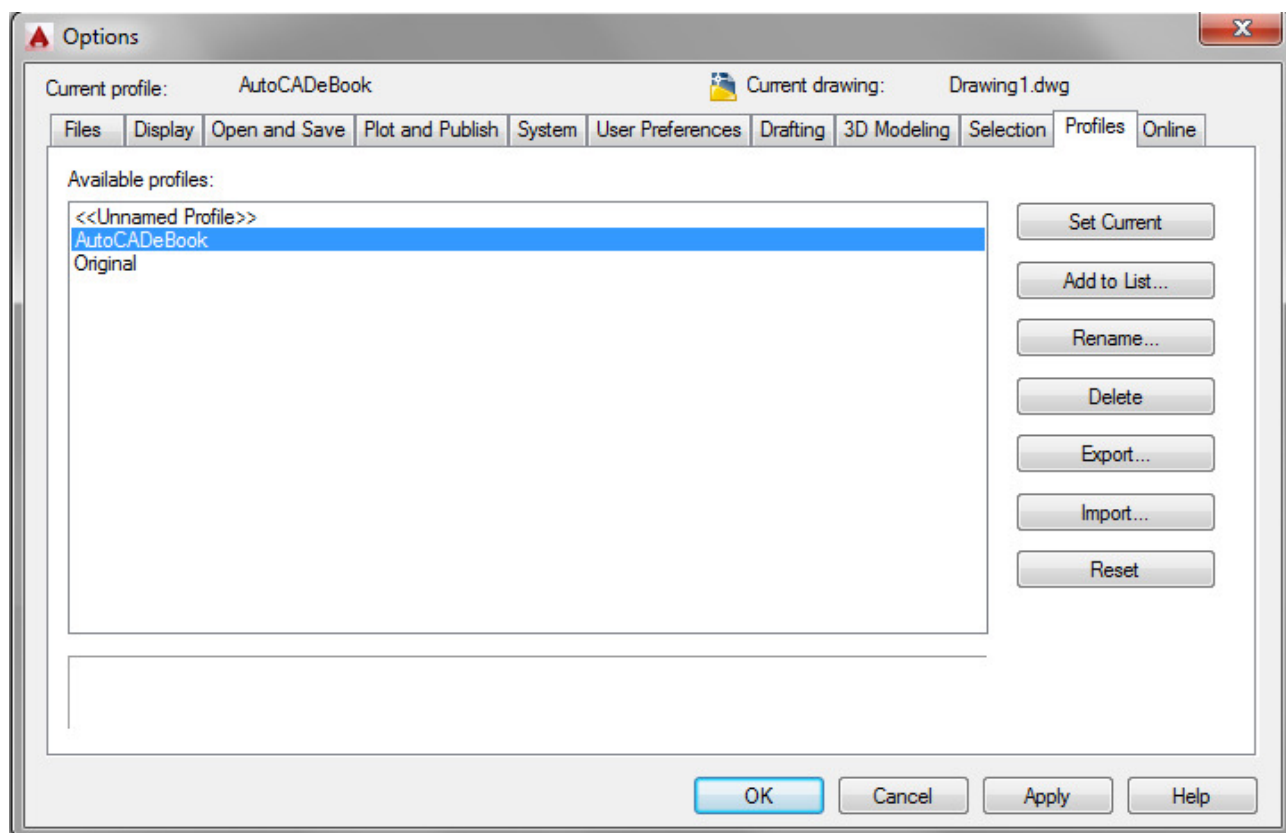

Figure Step 2
Step 2 In the Options dialogue box, enable the Profiles tab. (Figure Step 2)